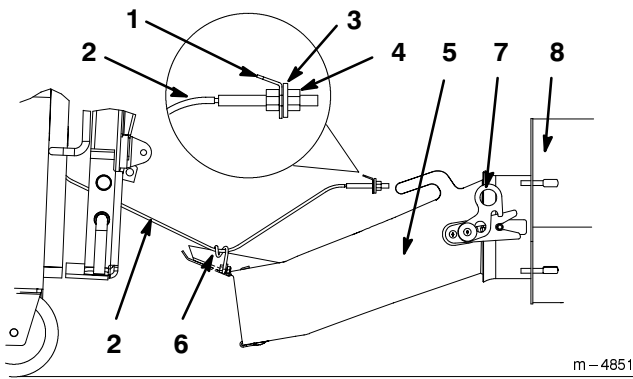

Figure 37
- Route plenum cable under seat. Raise seat, to gain access to plenum cable. Install cable into bracket and install washer and nut (Fig. 37).